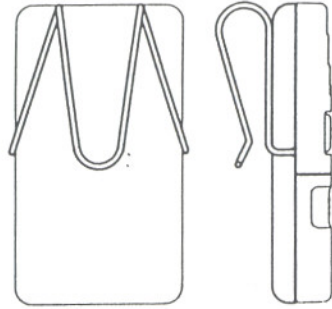

Fig. 21
- Attach visor clip to remote control (Fig. 21).